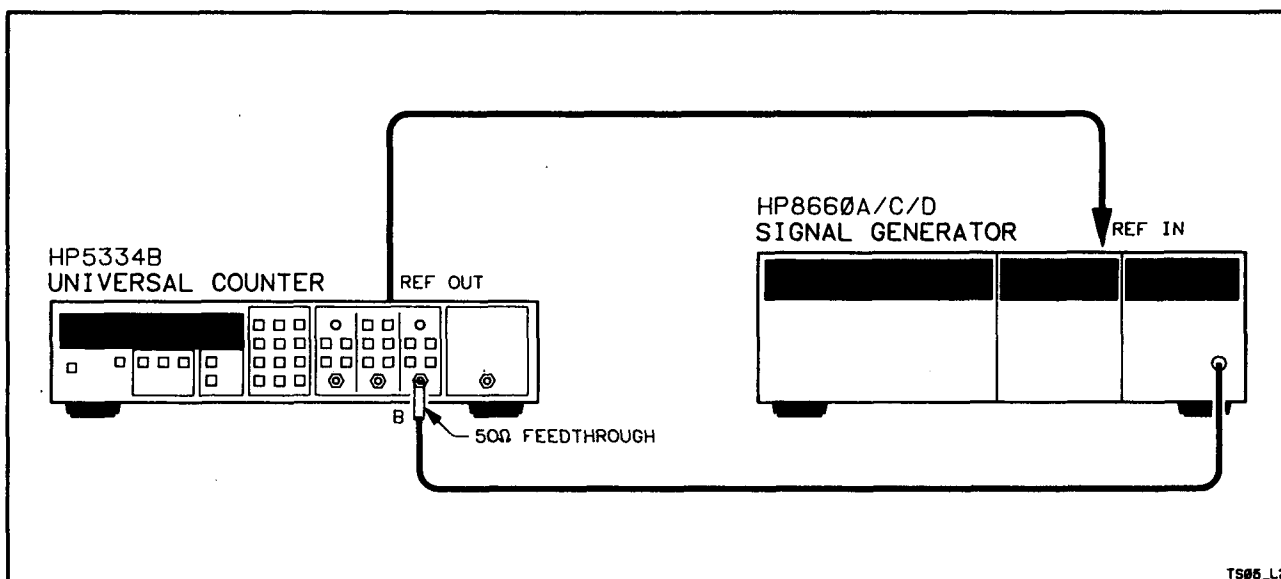

Figure 4-5. Channel B Frequency and Sensitivity Setup,
- Connect the signal generator to the HP 5334B Input B using a 50Ω feedthrough connector as shown in Figure 4-5.